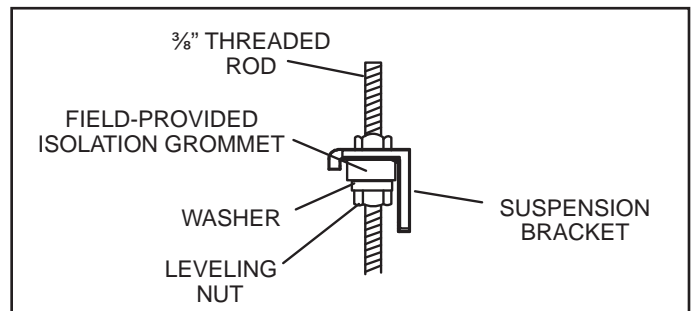

Figure 4. Isolation Grommet
5. If necessary, install a field-provided isolation grommet as shown in figure 4 to prevent transmission of vibration from unit to structural ceiling.
- Install a field-provided isolation grommet as shown in figure 4 to prevent transmission of vibration from unit to structural ceiling.